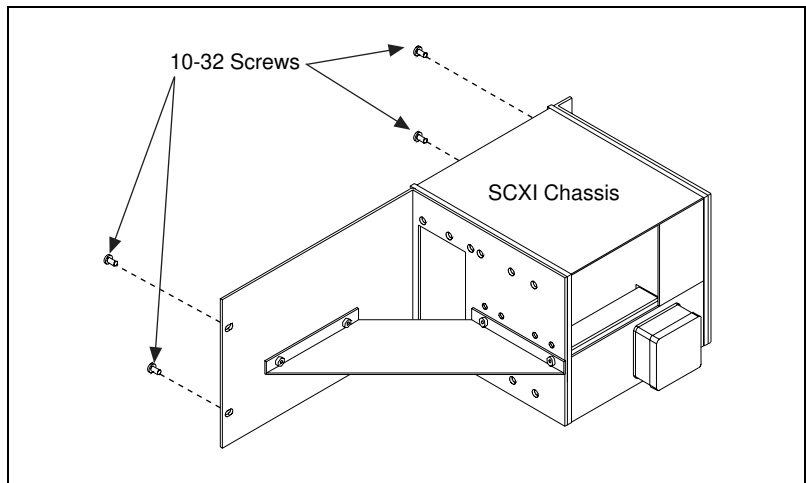

Figure 2. Attaching the Assembly to Your Rack
2. Use the 6-32 hex nuts (item 7) and no. 6 lockwashers (item 5) to attach the brace (item 6) to the rack-mount bracket with the longer side panel (item 1).
3. Using the four 8-32 screws (item 2), attach the rack-mount brackets (items 1 and 4) to your SCXI chassis.
4. Use the two 6-32 screws (item 3) to secure the rack-mount brackets (items 1 and 4) to your SCXI chassis when they are in positions 1, 2, 3, or 4. Figure 2 shows the completed assembly.
5. Use the four 10-32 screws shown in Figure 2 to attach the assembly to your rack.